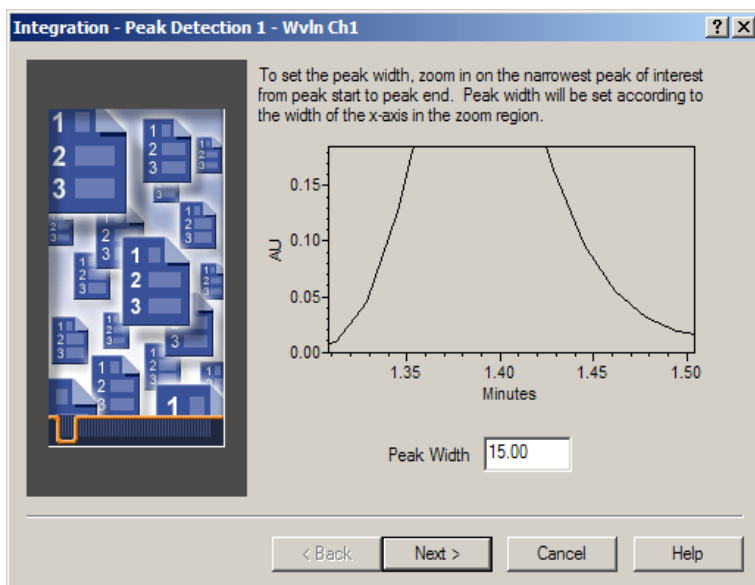

Figure 3-7 Setting the Peak Width Parameter
- Follow the wizard instructions and use the mouse to draw a zoom box that encloses the liftoff and touchdown of the narrowest peak of interest (peak 1 at 1.39 minutes). The software displays the zoomed selection and determines the appropriate peak width (Figure 3-7).